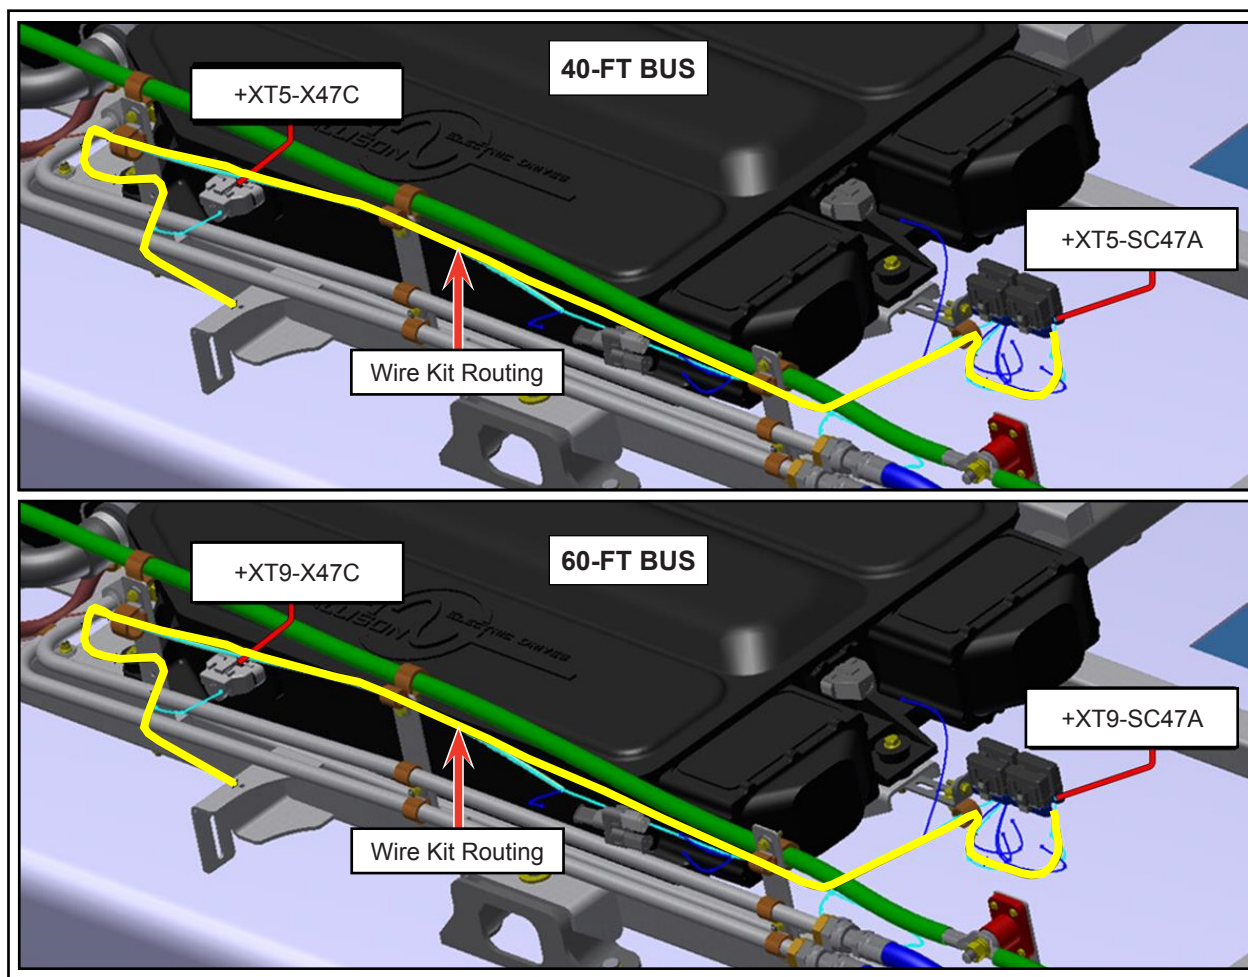

Figure 3 - Routing of Wire Kit (N632000563)
- 1.6. Disconnect and secure the existing wire 47-112 using zip tie (G5007993) at position A of the splice connector +XT5-SC47A (40' bus)/+XT9-SC47A (60' bus) (see Figure 3).
- 1.7. Connect the wire 47-586 at position A of the splice connector +XT5-SC47A(40' bus)/+XT9-SC47A (60' bus) (see Figure 3).
- 1.8. Route the wire directly on the wire harness above the cooling pipelines until the structure support (see Figure 3).